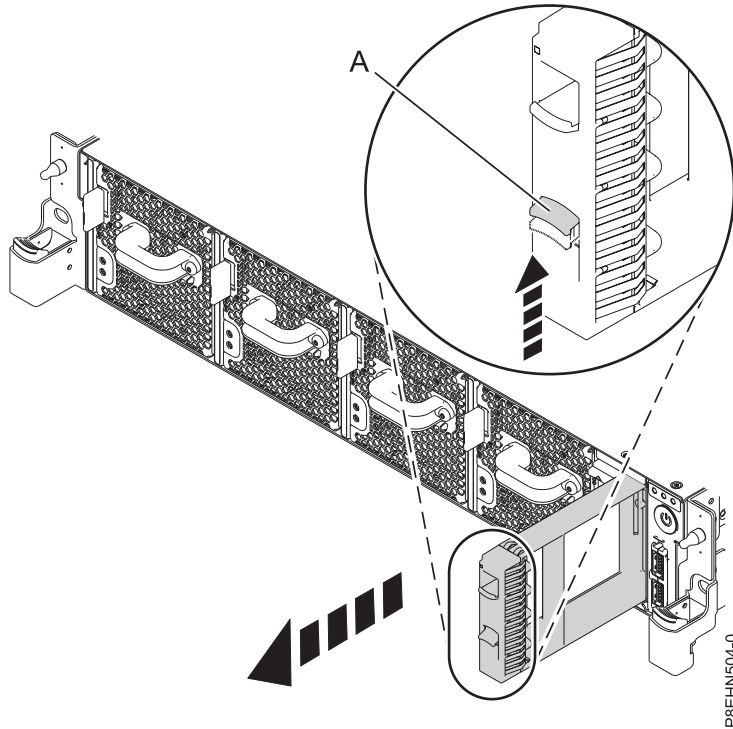

Figure 22. Removing a disk drive filler from a system.
- a. Push the lock (A) on the handle of the filler. See Figure 22 on page 20.